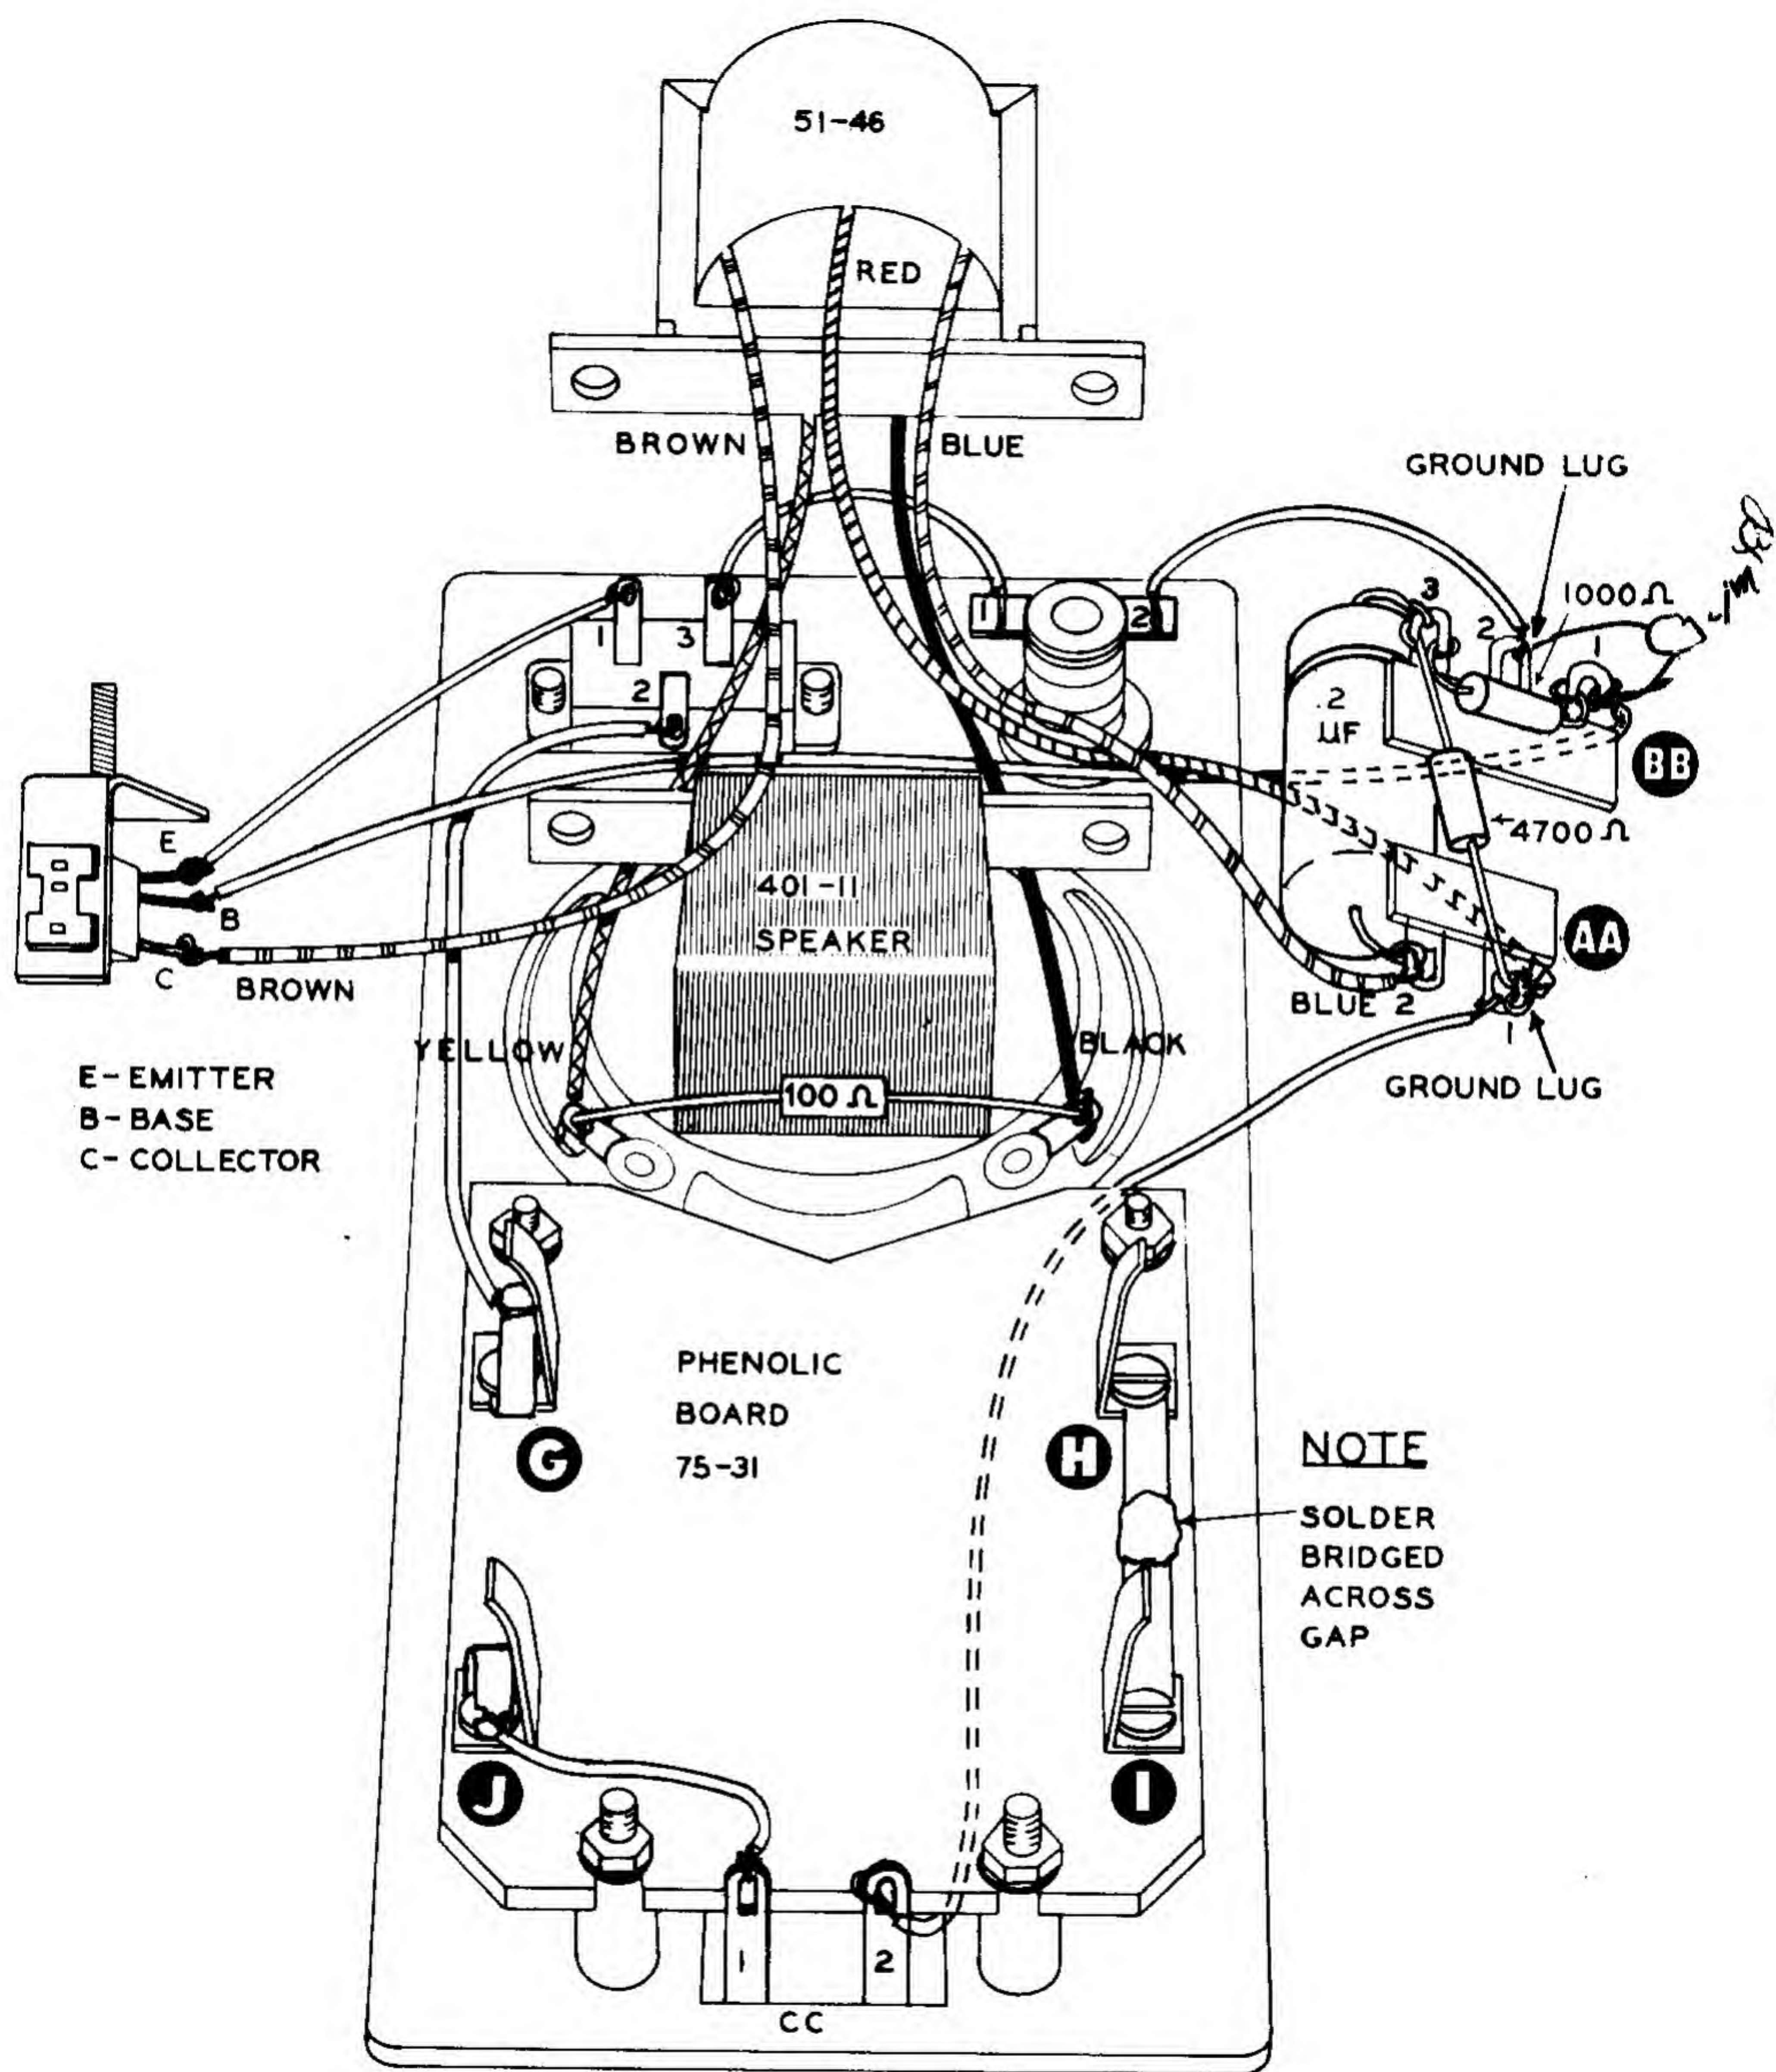

Figure 8
- () Cut a piece of hookup wire 4 1/2" long. Trim 1/4" of the insulation off the ends. Refer to Figure 8, route the lead under the phenolic board and connect to lug 1 on terminal strip AA (NS). Connect the other lead end to lug 2 on terminal strip CC (S-1).
- () Cut a piece of hookup wire 2" long. Trim 1/4" of the insulation off the ends. Connect one end to solder lug J on the phenolic board (S-1). Connect the other end to terminal 1 on the dual screw terminal strip CC (S-1). See Figure 8.
- () Cut a piece of hookup wire 2 1/2" long. Trim the insulation 1/4". Form a small hook at one end of the lead and pinch it tight around the emitter terminal of the transistor socket (S-1). See Figure 8. Connect the other end of the lead to the SPDT switch terminal 1 (S-1).
- () Form the brown lead from the transformer around the L bracket, as shown in Figure 8, and connect it to the transistor collector terminal (S-1).
- () Cut a piece of hookup wire 3 3/4" long. Trim the insulation 1/4". Form a small hook at one end of the lead and pinch it tight around the base terminal of the transistor socket (S-1). Route the lead under the transformer, as shown, and connect to lug 1 on terminal strip BB (NS). Refer to Figure 8.
- () Trim both leads on a 1000 Ω (brown-black-red) 1/2 watt resistor to 5/8" long. Connect one end to lug 3 on terminal strip BB (NS). Connect the other end to lug 1 on terminal strip BB (NS). *Trim both leads of a .1 ufd disc cap to 1/2" long. Connect one end to lug 1 to S3, the other to lug 2 NSBB*
- () Trim both leads on a 4700 Ω (yellow-violet-red) 1/2 watt resistor to 1" long. Connect one end to lug 1 on terminal strip AA (NS). Connect the other end to lug 3 on terminal strip BB (NS).
- () Route the red lead, as shown in Figure 8, from the output transformer to the grounded solder lug 1 on terminal strip AA (S-3).
- () Trim both leads on the .2 μ fd paper capacitor to 3/4" long. Connect one lead to lug 2 on terminal strip AA (NS). (Pull the capacitor up tight to the terminal strips and bend the lead ends around the lugs.) Refer to Figure 8. Connect the other lead to lug 3 on terminal strip BB (S-3).
- () Form a solder bridge across the two flat solder lugs H and I at the one side of the phenolic board, as shown in Figure 8. A 1/2" piece of bare wire could be used, soldered across the gap.